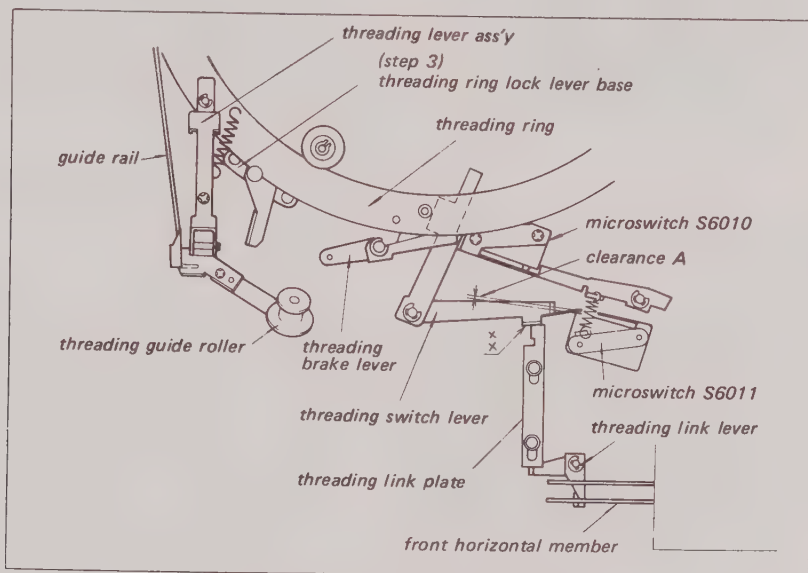

Fig. 5-42. Threading adjustments
3. If the Threading Guide Roller is not positioned as indicated in Step 2, loosen the screw in the Threading Ring Lock Lever Base. See Fig. 5-42. Bend the vertical tab on the Threading Switch Lever (marked XX in Fig. 5-42) to position the Threading Guide Roller properly. Check to make sure that the Front Horizontal Member is fully to the right in the Function Button Assembly when making this adjustment.
6. If the switch does not operate properly, adjust the position of the micro switch or bend the actuator to provide 0 to 0.3 mm clearance at the gap marked A in Fig. 5-42.